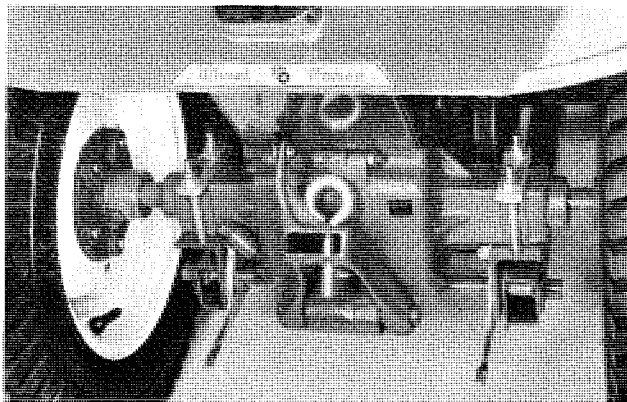

FIG. 1
1. Install the mounting bracket assembly (see Fig. 1). The bracket should be centered on the axle housing. Secure in place with the links and $\frac{3}{8}$ -16 x $3\frac{1}{2}$ " carriage bolts and $\frac{3}{8}$ -16 elastic stop nuts.
Angle spacers, Part No. 7713 (Item #14 on the exploded view drawing) are used to fill the gap between the bolts and the axle housing. The spacers are not used on the Automatic Transmission tractors. See Fig. 1. The frame cross shaft fits in the end hole, as shown, on all tractors that have a $45\frac{1}{2}$ " wheel base and the Commando 800, and 1974 & 1975 B-80 & B-100. All others use the second hole.
lever on the frame assembly is up and out of the way before the frame is locked in position. See Fig. 1.